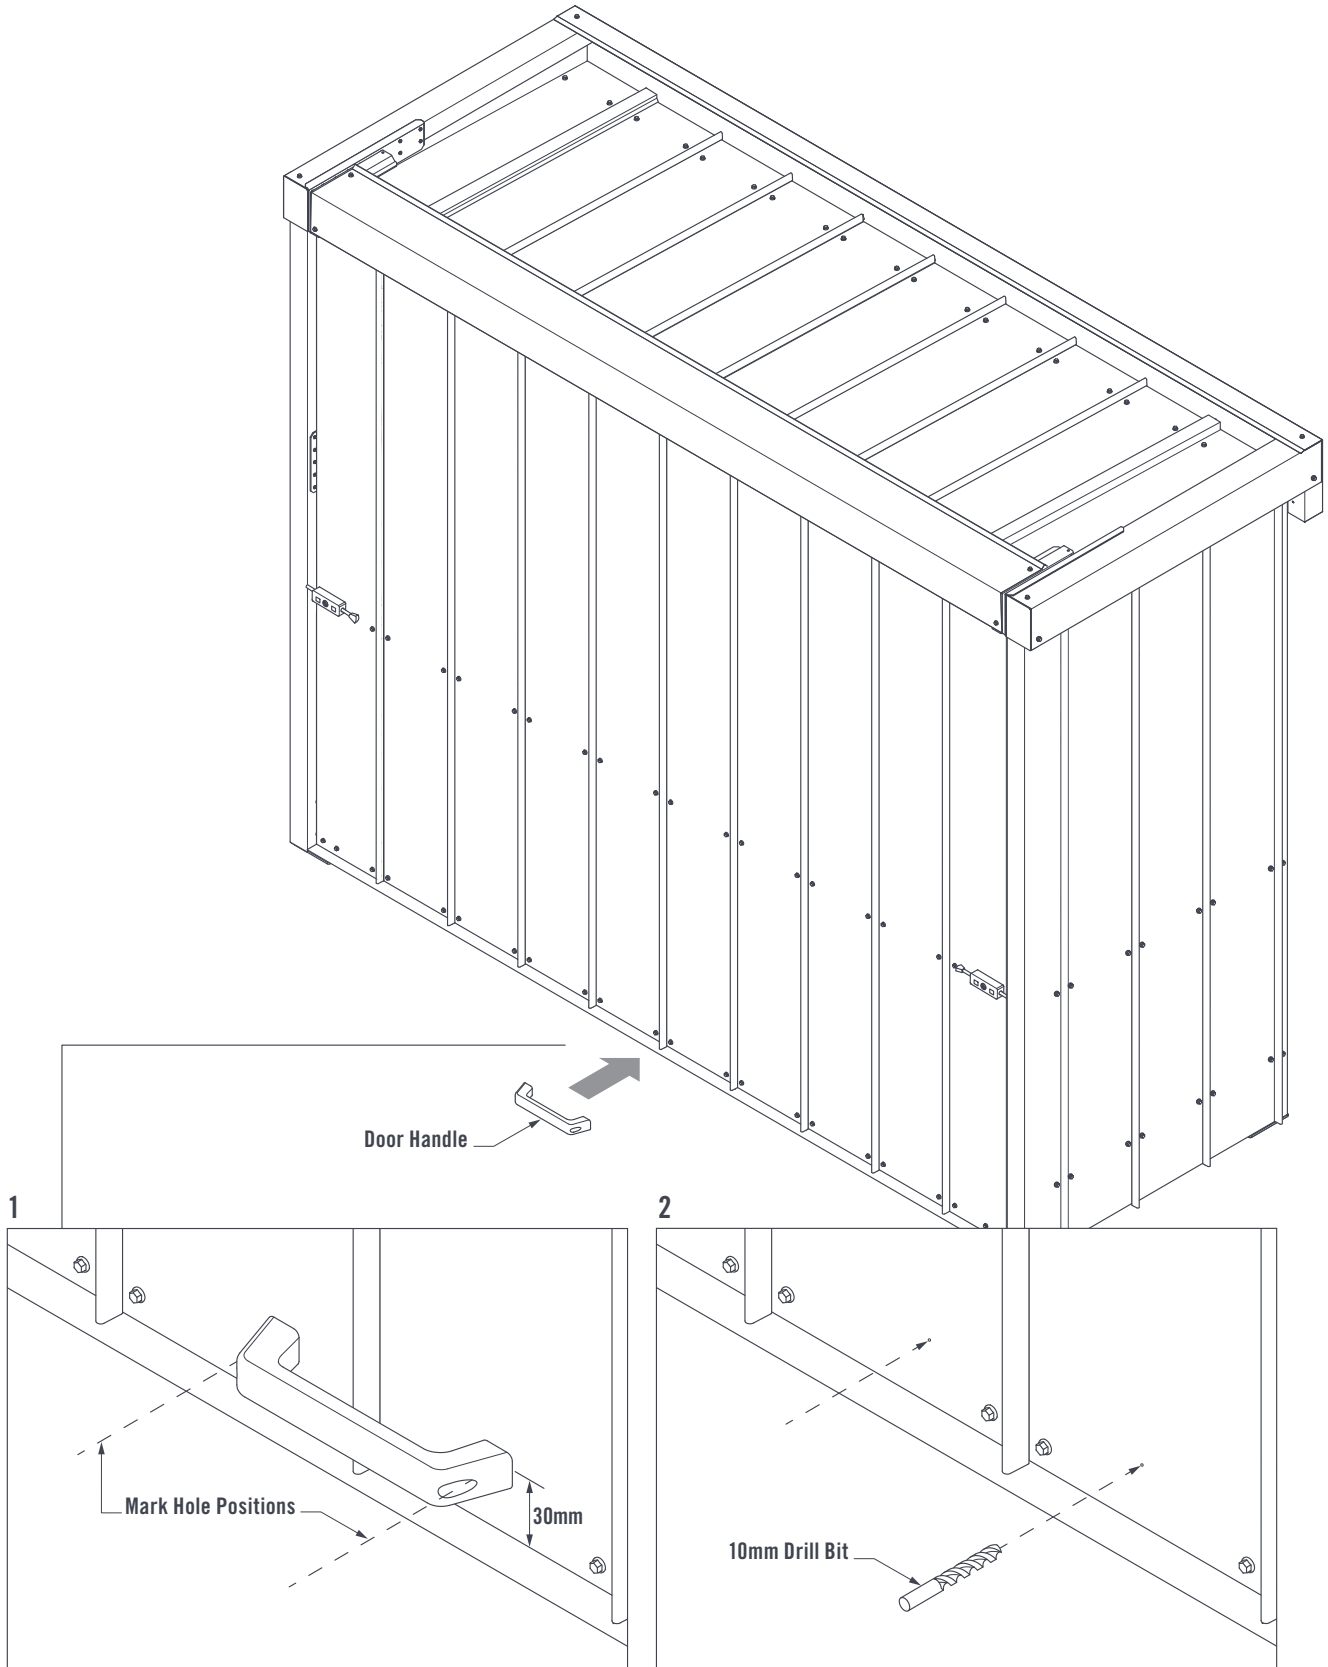

FIGURE 10.12
- 1) Position the Door Handle to the mid-point of the Door Assembly, and 30mm from the bottom of the door, ensuring the Door Handle is in-line with the 2575mm Frame and mark the mounting hole locations (Figure 10.12).
- 2) Remove the Door Handle and drill through the Sheets and Frame using a 10mm drill bit (Figure 10.12).